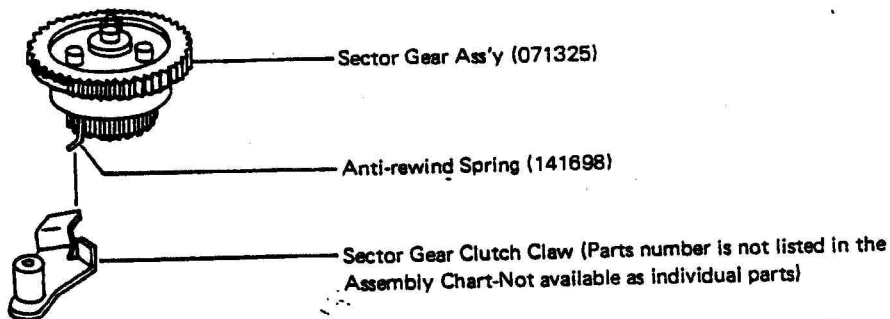
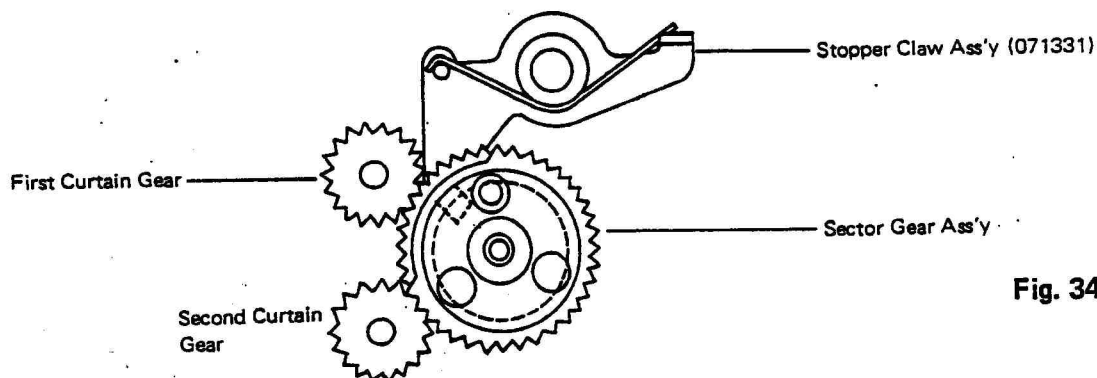

Fig. 33
Fig. 34
- (3) Again, wind the second shutter curtain with the screw driver until it stops.
(4) Wind the first shutter curtain by turning the First Curtain Stopper S.S. (66001054) clockwise completely.
- c) Install the Sector Gear Ass'y (071325) to the correct position and direction as shown in (fig. 34).
When installing the Sector Gear Ass'y make sure the Anti-Rewind Spring (141698) falls into the slot of the Sector Gear Clutch Claw (fig. 33), at the same time, the Stopper Claw Ass'y (071331) engages the groove on underside of the Sector Gear Ass'y (071325) as shown in (fig. 34).